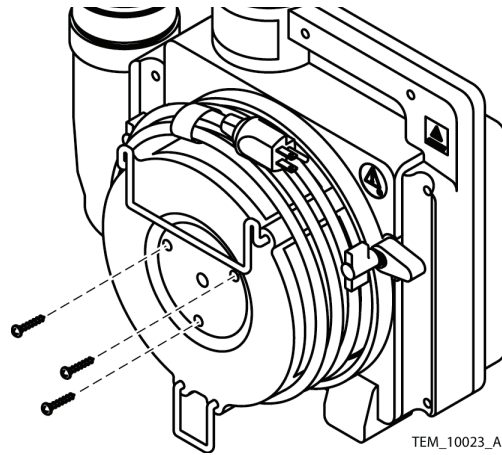

Figure 61. Filter Cover Screws
3. Remove the filter cover screws from the warming unit. See Figure 61.